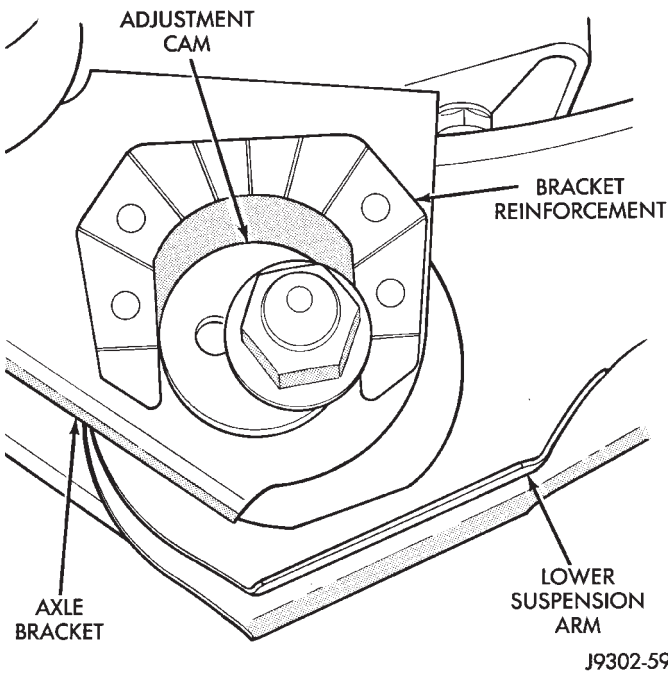

Fig. 2 Cam Adjuster
- (1) Raise and support the vehicle.
- (2) If equipped with ABS brakes remove sensor wire from the inboard side of the arm.
- (3) Paint or scribe alignment marks on the cam adjusters and suspension arm for installation reference (Fig. 2).